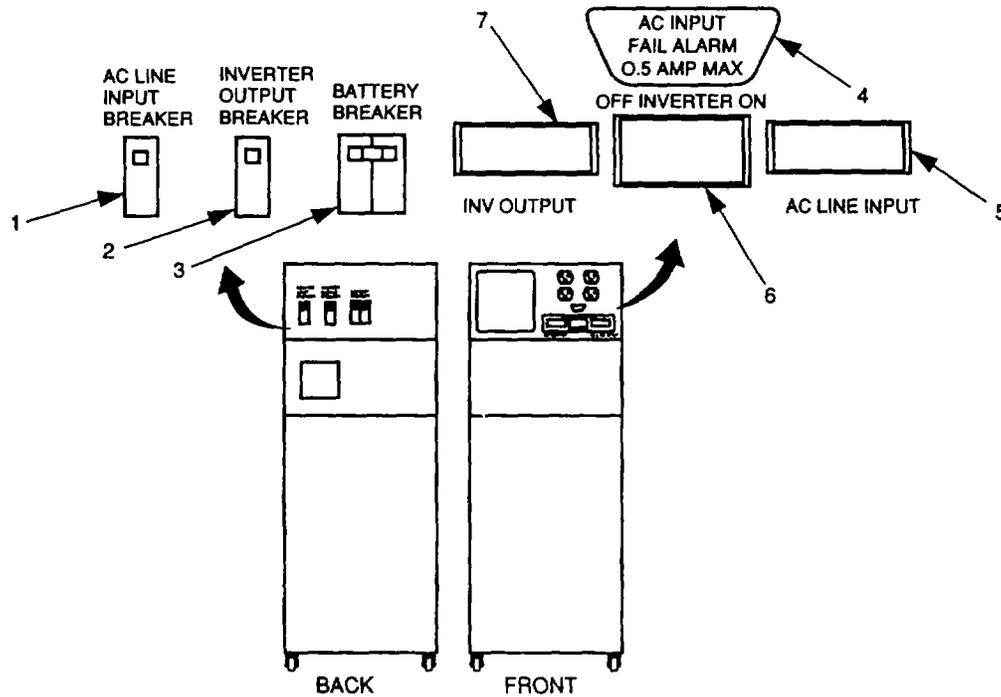

Figure 2-1. UPS Controls and Indicators.
2.1.1 Controls and Indicators UPS. The UPS (figure 2-1) provides the AC power for the CMA and computer. The UPS controls and indicators are listed with a description in table 2-1.